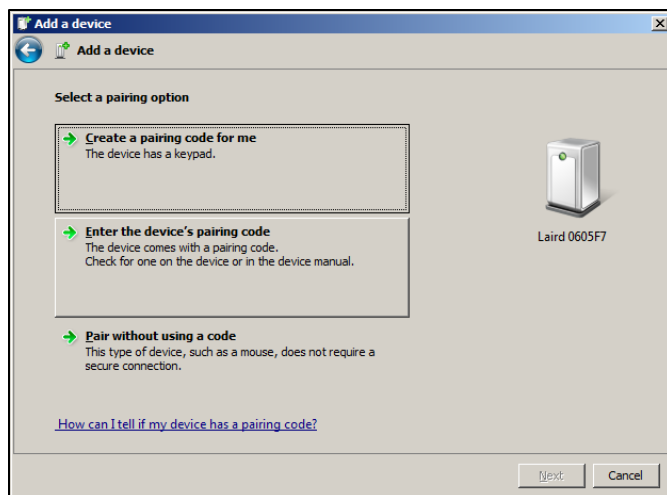

Figure 31: Select a pairing option window
- a. From the *Select a pairing option* window, select **Enter the device's pairing code** (Figure 31).